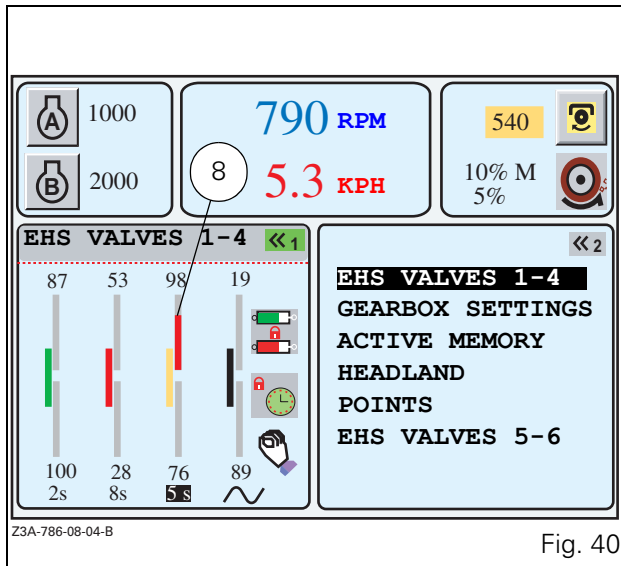
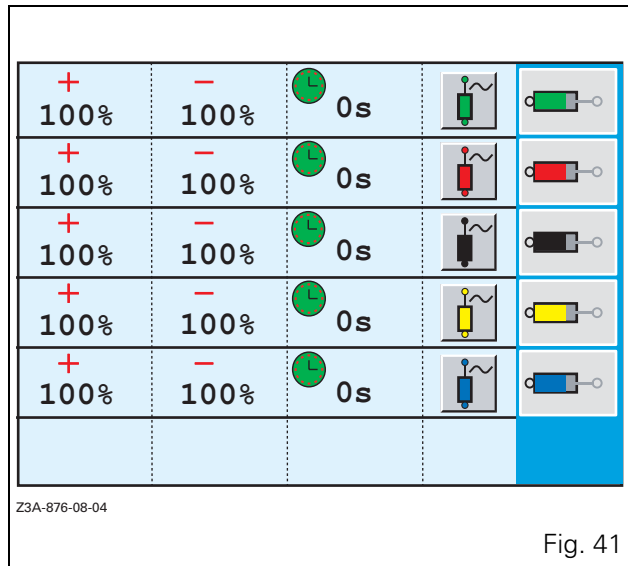

Fig. 40
Fig. 41
- Validate by pressing the encoder or the key «1. The window (Fig. 40) is displayed.
Description (Fig. 40):
Shortcut icon providing access to the **EHS VALVE SETTINGS** application by pressing the key «₆ when the window is active. The window (Fig. 41) is displayed.
NOTE: When the window (Fig. 41) is open, press the key **ESC**. The window (Fig. 40) is displayed again if it was open previously.